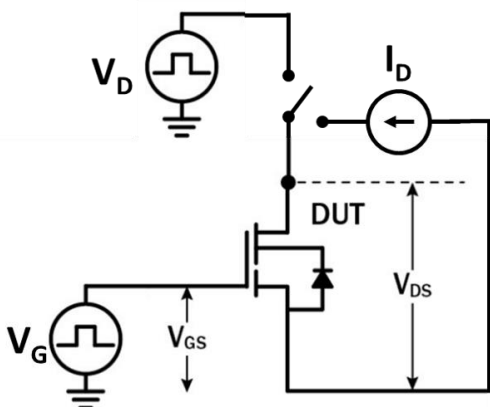

Figure 18. Dynamic $R_{DS(on)eff}$ Test Circuit
- a. Dynamic $R_{DS(on)}$ value; see Figures 18 and 19 for conditions